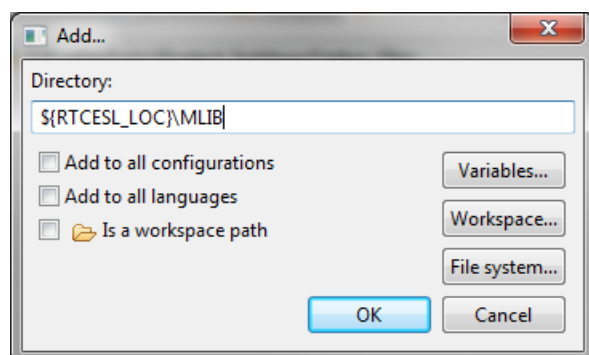

Figure 1-17. Library path inclusion
5. Look for the RTCESL_LOC variable by clicking Variables..., and then finish the path in the box by adding the following (see Figure 1-17): `${RTCESL_LOC}\MLIB`.